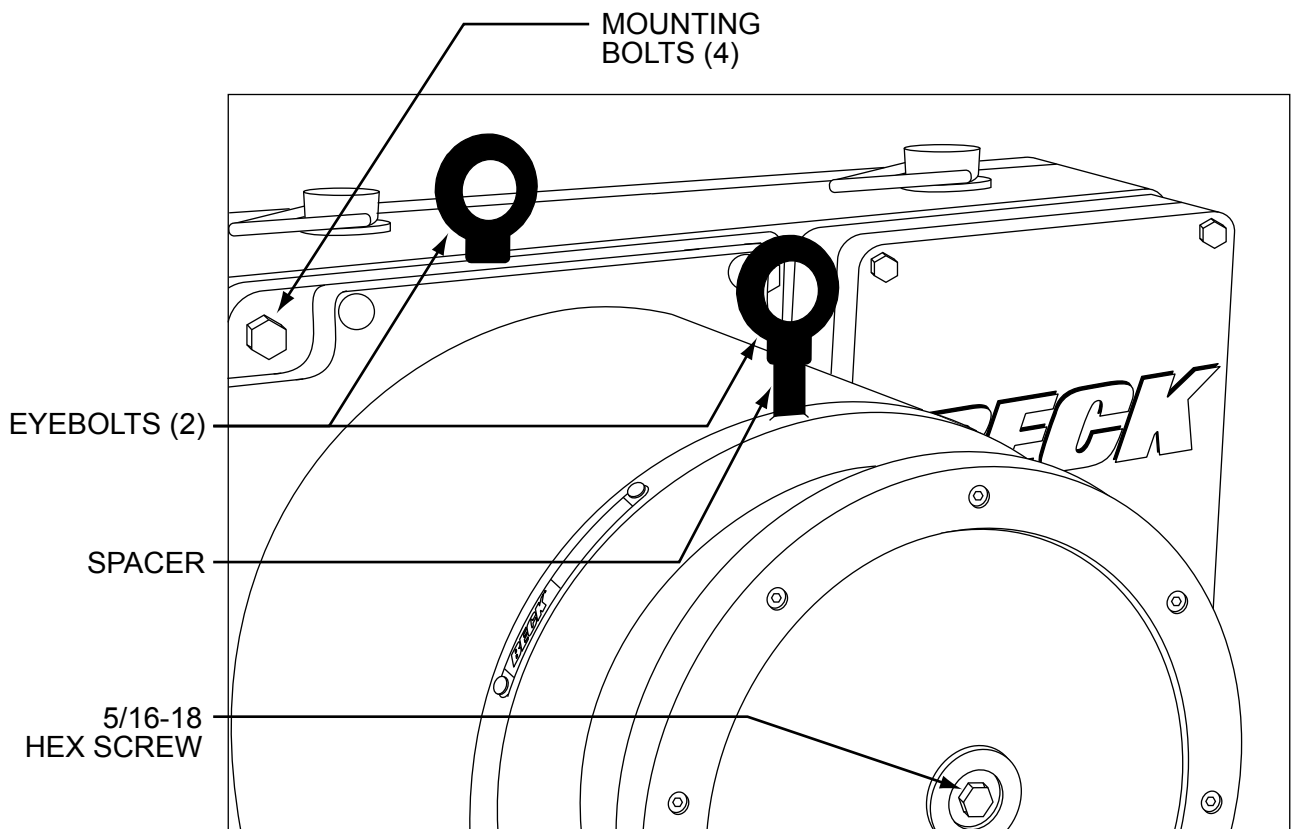

Figure 1
2. Remove and retain the cap plugs from the holes (2) located in the top of the motor. Install the eyebolts and spacer (provided) in the holes (see Figure 1).
4. Remove one of the top 1/2-13 motor mounting bolts from the motor (see Figure 1), then remove the bottom opposite 1/2-13 bolt.